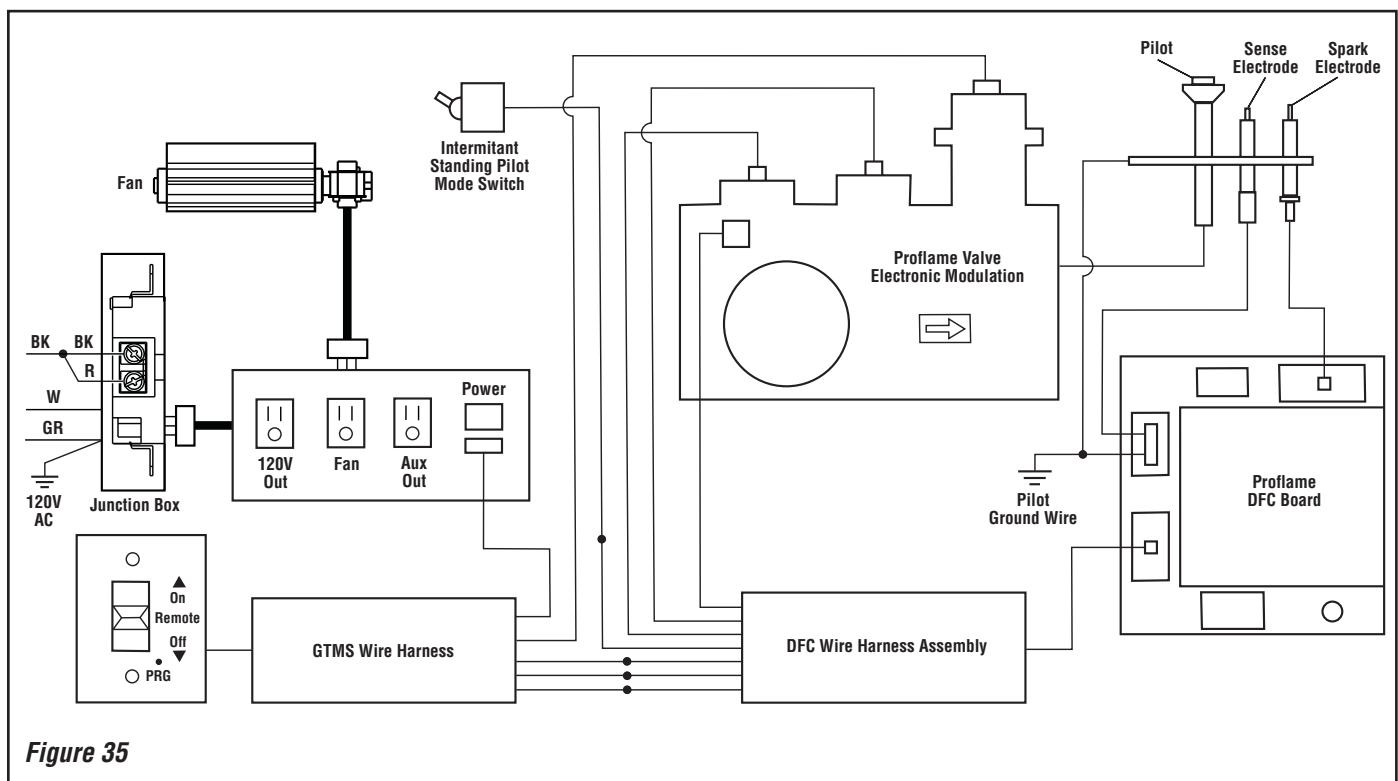

Figure 35
4. Connect the black power supply wire to the **lower outlet's** red and black pigtail leads and the white power supply wire to the **common** terminal of the outlet as shown in *Figure 35*.
Place the 3 position slider switch in the "Remote" position (*see Figure 35*). Using the end of a paper clip, or other similar object, insert the end of the paper clip into the hole marked "PRG" on the Receiver front cover. The Receiver will "beep" three (3) times to indicate that it is ready to synchronize with a Transmitter.